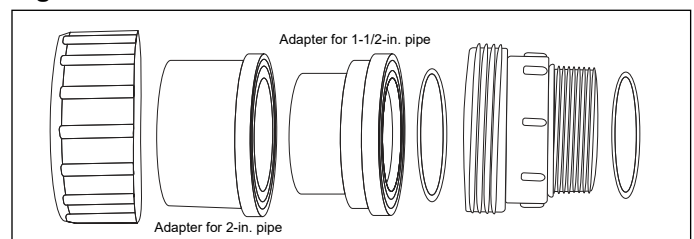

Figure 3
Choose a 1-1/2 in. or 2 in. adapter to match your pipe size. (See Figure 3).
The pump accepts 230V, 50 or 60Hz single phase input power. The terminal block connections are capable of handling up to 12AWG solid or stranded wire. There are also fast-on type quick connectors, however, check the local electrical codes for the desired connection method. The connections must be permanently made to the grounding terminal (see **Figure 3**) in the field wiring compartment according to the local electrical code.
1. Be sure all electrical breakers and switches are turned off before wiring motor. Always wait five (5) minutes after disconnecting the power from the pump before opening or servicing the drive.
5. Permanently ground the motor using the ground screw located on the inside rear of the controller interface (see **Figure 3**). Use the correct wire size and type specified by the current National
6. Bond the motor to all metal parts of the pool structure and to all electrical equipment, metal conduit and metal piping within 5 feet (1.5 M) of the inside walls of the swimming pool, spa or hot tub in accordance with the current National Electrical Code. UL requires use of a solid copper bonding conductor not smaller than 8 AWG. (See **Figure 3**).